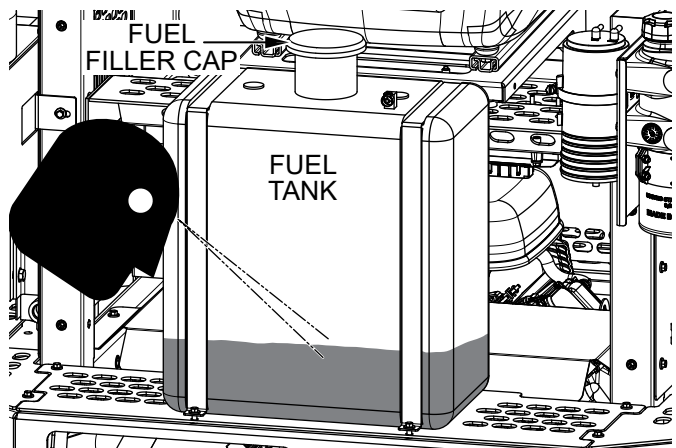

Figure 17. Fuel Level Inspection
- Visually inspect the level of hydraulic oil in the **hydraulic oil reservoir** (Figure 17). Hydraulic oil should be visible between the **MIN** and **MAX** lines on the reservoir.
- Visually inspect the fuel level in the **fuel tank** (Figure 17).
- If fuel is low, remove the **fuel filler cap** (Figure 17) and fill the tank with clean, fresh, 87 octane or higher unleaded gasoline. **DO NOT** overfill. The fuel tank holds 8 gallons (75.7 liters) of gasoline.